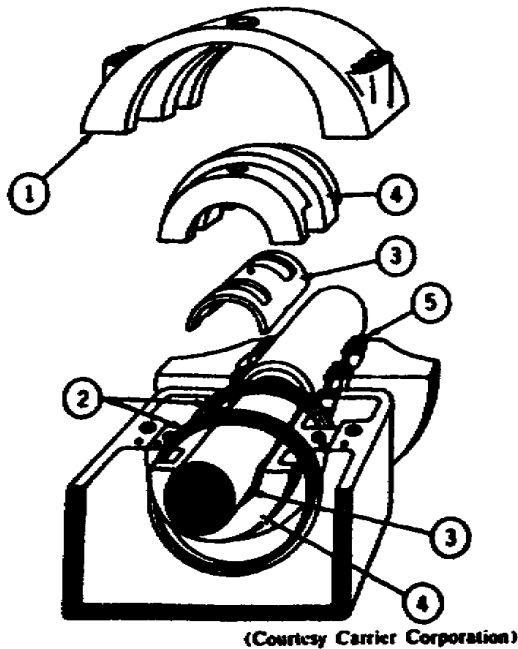

Figure 43. Bearing assembly.
3. In figure 43 a thermometer is inserted in top of each bearing cover (1) for indicating temperature. Each bearing also has two large oil rings (2) to insure lubrication. The upper and lower bearing liners (3) are held in place by the upper and lower bearing retainers (4).
4. Brass labyrinths (5) between stages and at the ends of the casing restrict the flow of gas between stages and between the compressor casing and bearing chambers.